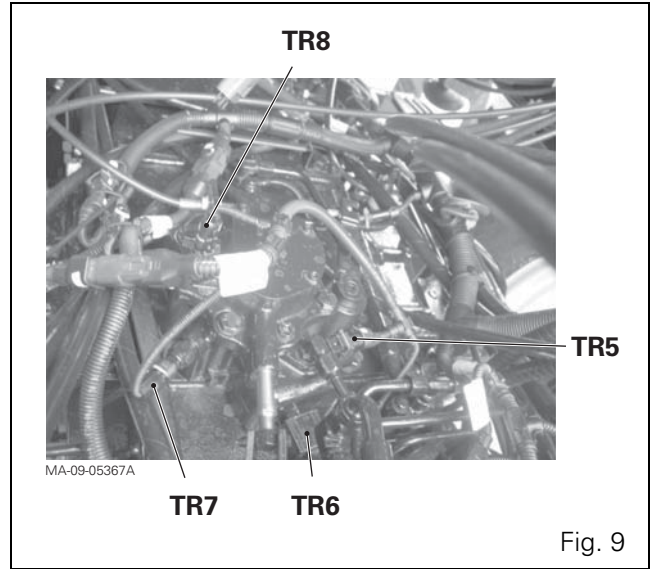
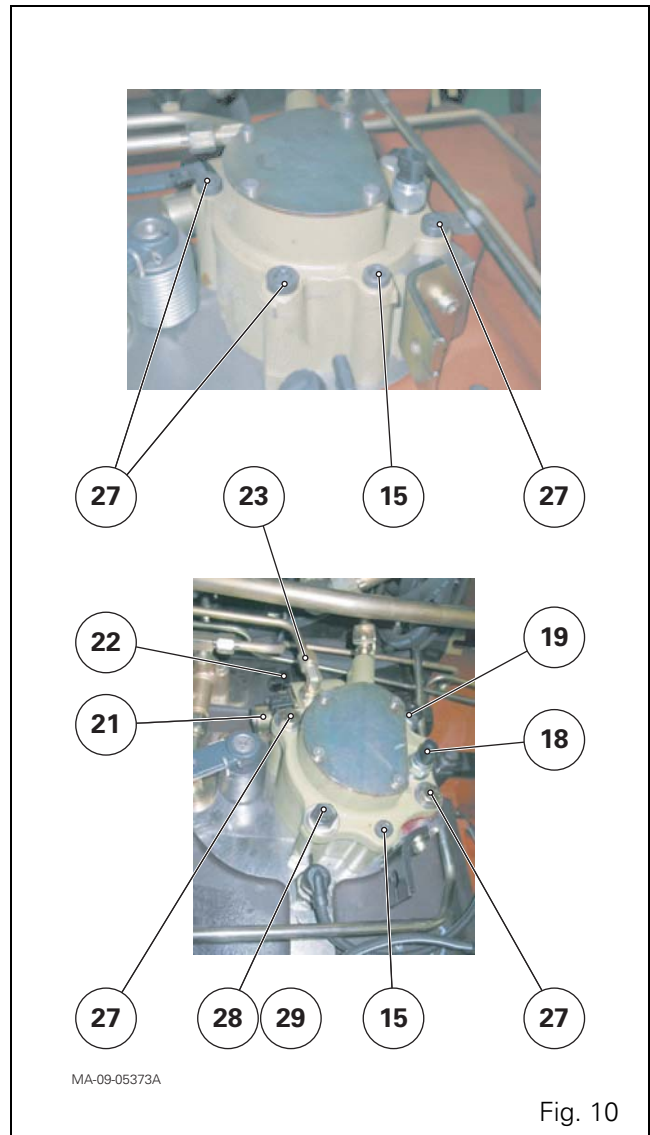

Fig. 9
Fig. 10
4. Disconnect the connectors (TR5) to (TR8) (Fig. 9) connected to the switches (18) and (19) and the solenoid valves (21) and (22) (Fig. 10), marking them beforehand.
5. Disconnect the 17 or 21 bar supply pipe connected to the union (23) (Fig. 10).
7. Remove the M12 screws (27) and the nut (29) (if fitted) but not the M10 screws (15) (Fig. 10).
9. Recover the push rod (10) without allowing it to fall inside the centre housing.